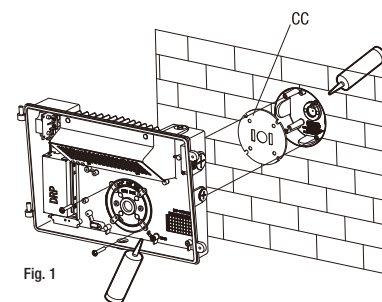

Fig. 1
- Align the holes in the fixture mounting base (D) and the EVA foam (CC) then attach the EVA foam to the mounting base.
- Caulk around the EVA Foam (CC) and surface with silicone sealant (not included).
- Remove the entry plug in the mounting base and Route the junction box wires through the large center hole in the mounting base (D).
- Align the holes on the mounting base (D) with the holes on your junction box. Use two (2) or four (4) screws, depending on the size of the holes in your junction box, to attach the mounting base (D) to your junction box. (Fig. 1)